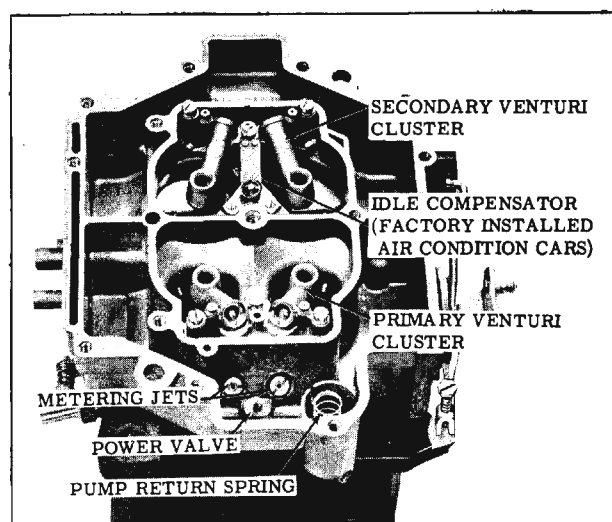

Fig. 9-14 Float Bowl Assembly
7. Install the power valve and gasket, and the two primary main metering jets. (Fig. 9-14)